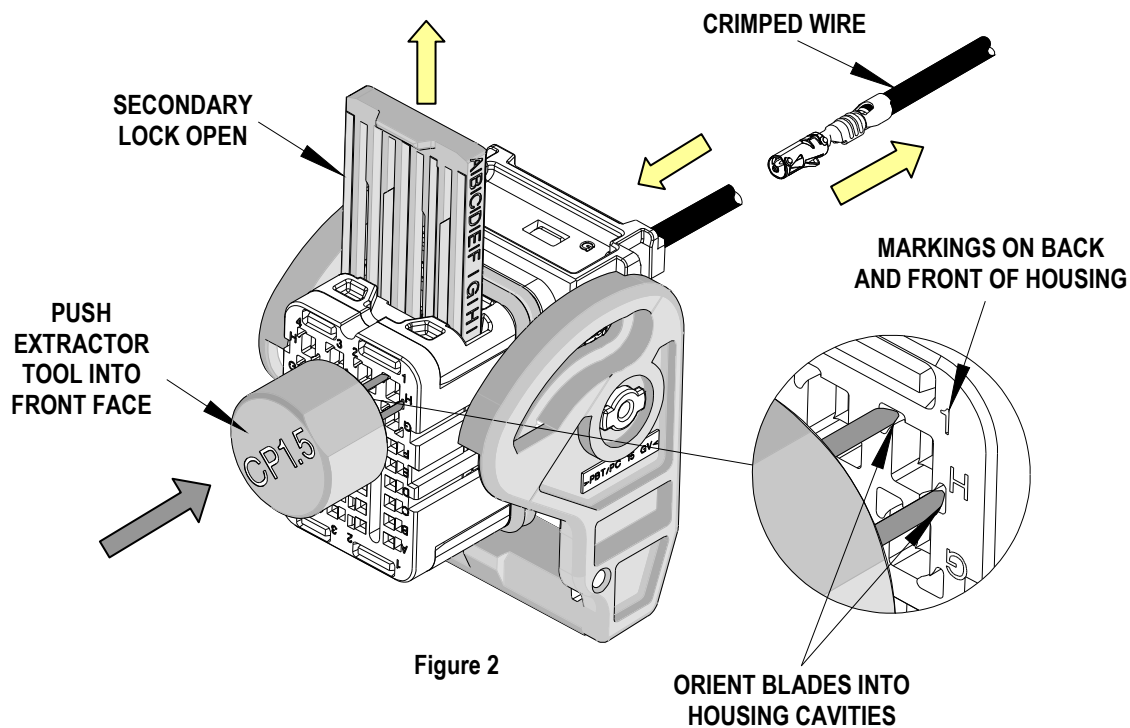

Figure 2
- Position the blades of the extraction tool into the two small cavities of the slot in the front face of the housing as shown in Figure 2. Use the identifying markings on both the front and back of the connector to locate the opening used to extract the crimped wire.